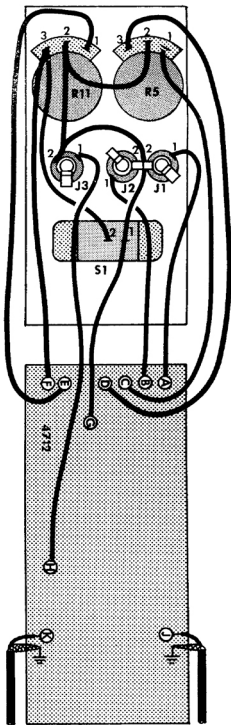

Figure 2 - Front Panel/Circuit Board Wiring
Note that in a later step the ground lugs (lug #2) of miniature phone jacks J1 and J2 will be soldered together. Make sure that these lugs are adjacent to one another before tightening the nuts on these jacks. (see figure 2 foldout on page 5)
- ( ) Mount the miniature phone jack J1 using the nut provided. Orient as illustrated in figure 2.
- ( ) Using two 4-40 X 1/4 inch machine screws and two 4-40 nuts mount the slide switch S-1 in the position shown in figure 2.
- ( ) Mount 500K ohm potentiometer R5 in the location shown in figure 2. Use two 3/8 inch nuts, one behind the front panel as a spacer and the second on the front side of the panel to secure the potentiometer. Adjust the rear nut so that none of the threaded shaft of the control is exposed when the front nut is tightened down. This will allow the control knob, which will be mounted in a later step to seat as closely as possible to the front panel. Orient as illustrated.